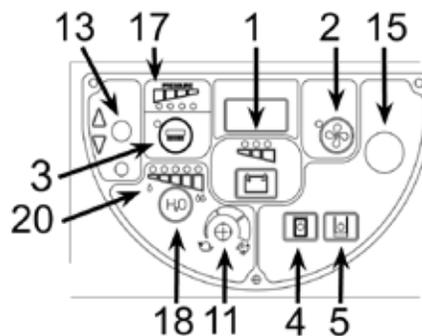

Fig. 6
1. Turn the machine on by pressing the button (fig. 6, ref. 3), wait 5 seconds and make sure the display comes on.
2. Press the brush buttons (fig. 6, ref. 3) and suction button (fig. 6, ref. 2) together for at least 5 seconds. This accesses the battery setting menu.
3. Press the suction button (fig. 6, ref. 2) to select the type of battery installed on the machine "ACd" for acid batteries (AGM batteries) or "GEL" for gel batteries.
4. Memorise the displayed parameter by pressing the button (fig. 6 ref. 3).
5. Turn the machine on by turning the key switch (fig. 6, ref. 15), wait 5 seconds and make sure the display comes on.
6. Press the brush buttons (fig. 6, ref. 3) and suction button (fig. 6, ref. 2) together for at least 5 seconds. This accesses the battery setting menu.
7. Press the suction button (fig. 6, ref. 2) to select the type of battery installed on the machine "ACd" for acid batteries (AGM batteries) or "GEL" (GEL batteries).
8. Memorise the displayed parameter by pressing the emergency button (fig. 6 ref. 15).